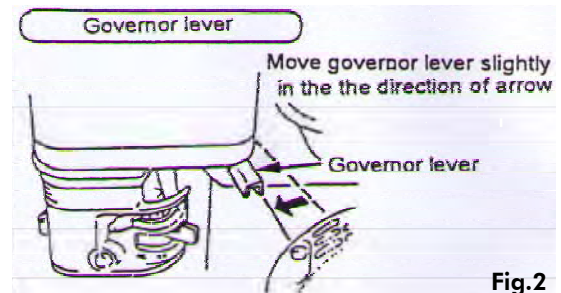

Fig.2
1. Opening the governor lever sharply causes the compactor to start working (Fig.2). When the engine speed reaches around 2300rpm, centrifugal clutch will be engaged. The lever should be operated quickly without hesitation, because increasing the engine speed slowly causes the clutch to slip.
4. time, return the governor lever quickly to LOW position. Do not move it slowly. (Fig.2)